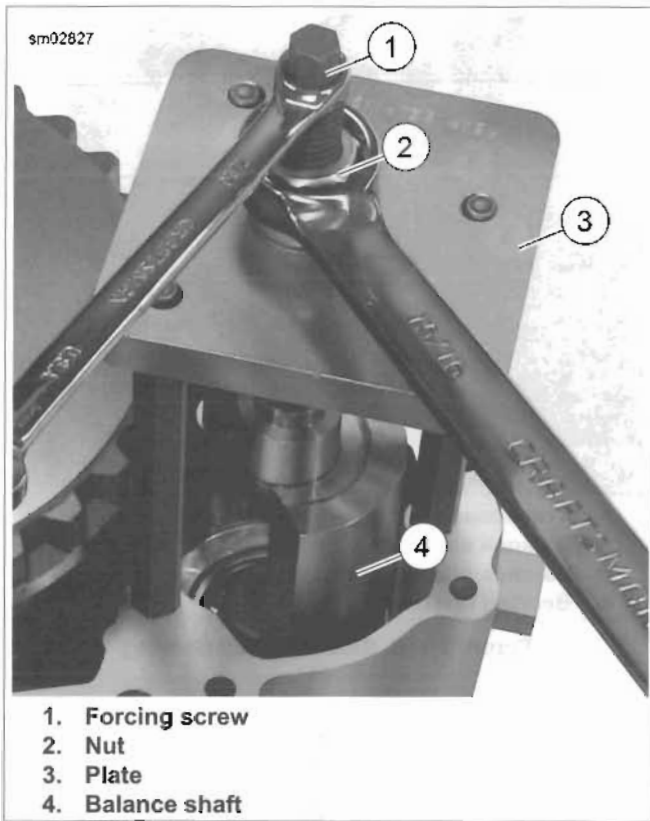

Figure 3-150. Removing Balance Shaft
3. See Figure 3-150. While holding forcing screw (1) from turning, turn nut (2) to remove balance shaft (4) and bearing from crankcase.